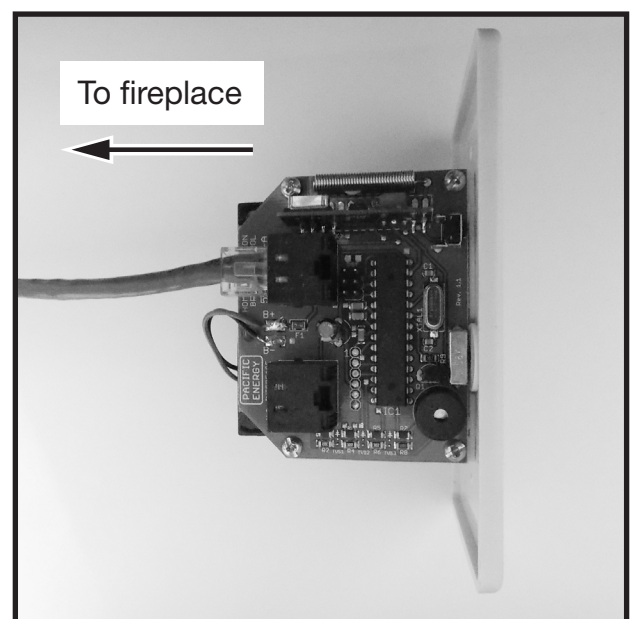

Figure 30: Wall switch - interface side.
7. Route the wall switch control cable as required to the wall switch (Figure 30).